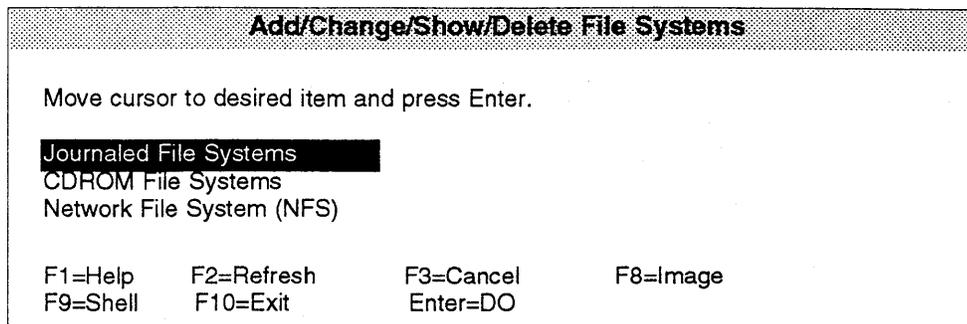

Figure 4-18: Add/Change/Show/Delete File Systems Menu
- 2 Select "Add/Change/Show/Delete File Systems" and the menu will appear as shown in Figure 4-18.